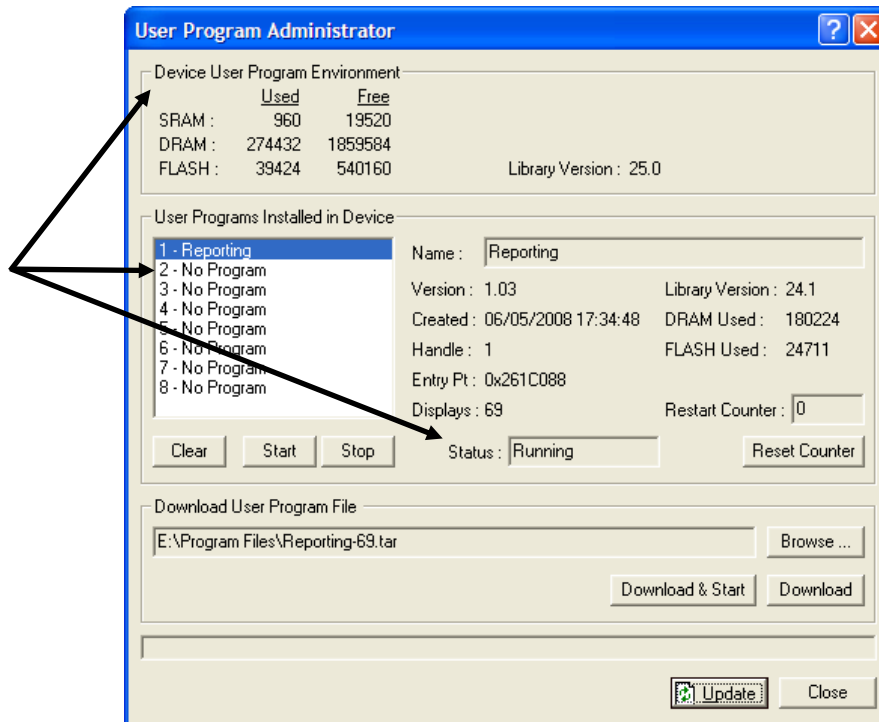

Figure 9. User Program Administrator
7. Click **OK**. The User Program Administrator screen displays (see Figure 9). Note that: